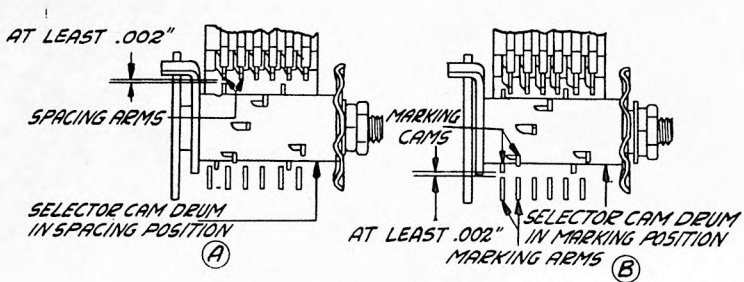

Fig. 4
8. SELECTOR LEVER GUIDE ADJUSTMENT (Figure 4)
9. SELECTOR LEVER GUIDE SHIMS ADJUSTMENT (Figure 4)
- 9.1 that the spacing cams on the selector cam drum clear the spacing arms of the selector levers by at least .002" (See "A" Figure 4). Place the selector levers in the marking position (down). Turn the main shaft and at the same time move the selector cam drum by hand so that the marking cams on the drum will be in line with the marking arms of the selector levers. The marking cams should clear the marking arms by at least .002" (See "B" Figure 4). Add or remove shims located under the selector lever guide to divide the clearance equally between the spacing and marking cams and arms.